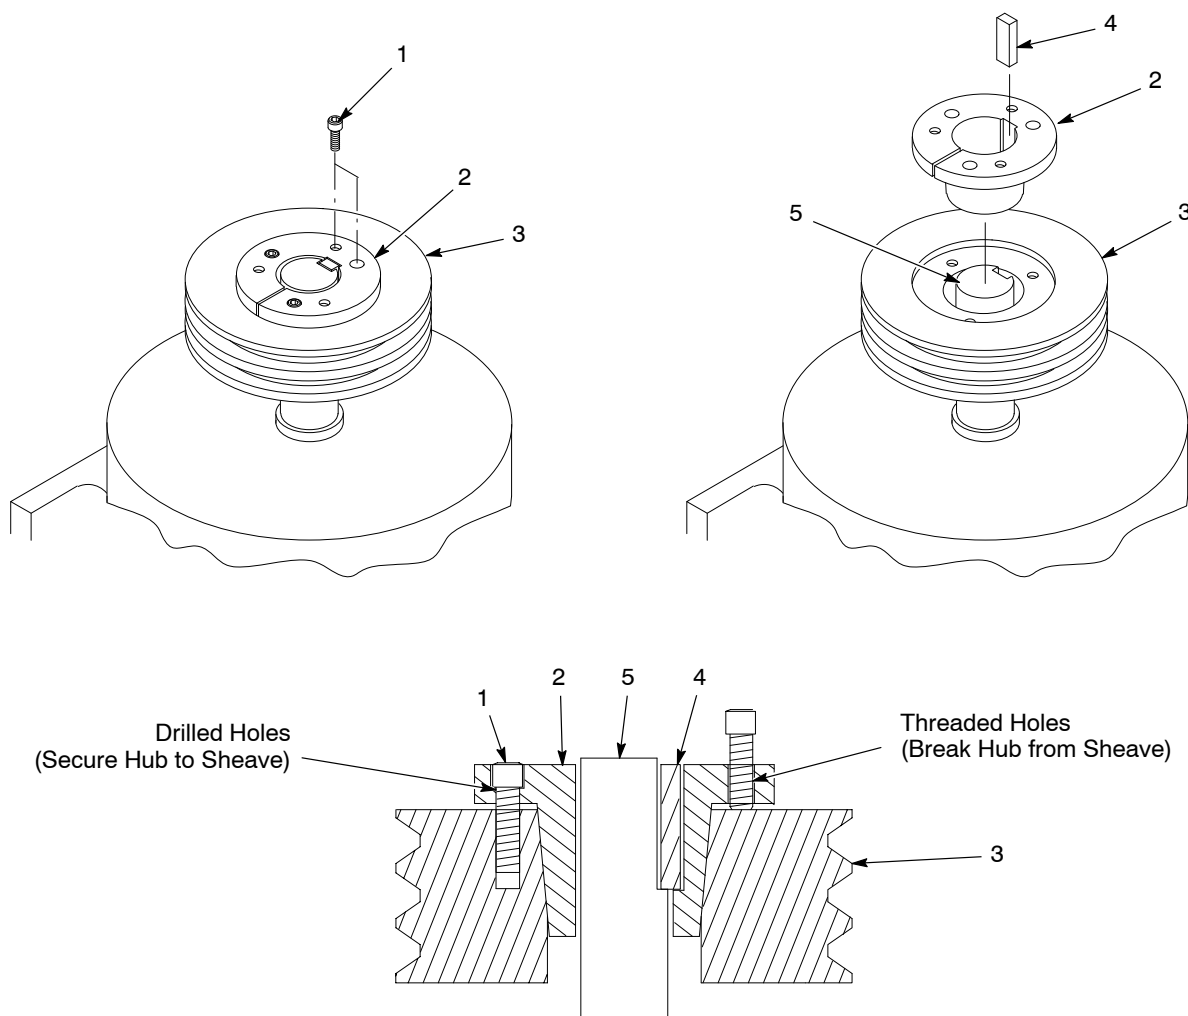

Figure 6-8 Motor Sheave Replacement
2. See Figure 6-8. Unscrew the three cap screws (1) and remove them from the drilled holes in the bushing (2). Thread the screws through the threaded holes in the bushing until they bottom out on the sheave (3) hub.
4. Pull the sheave and bushing off the motor shaft. Remove the screws from the bushing. Inspect the sheave, bushing, and key (4), and replace them if they are damaged. Clean the parts that will be reused.